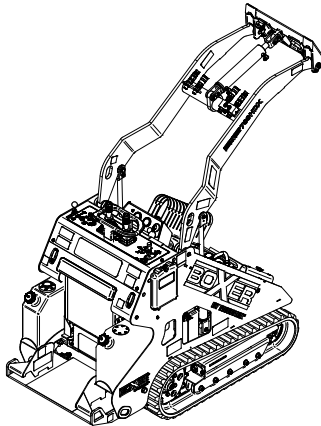

Figure 4-1 Fuel Level Check
- a. The Boxer has a saddle tank (Item 1, Figure 4-1), on each side of the machine.
- b. Remove cap (Item 2, Figure 4-1) and visually inspect fuel level. Make sure that each tank has been filled on a daily basis.